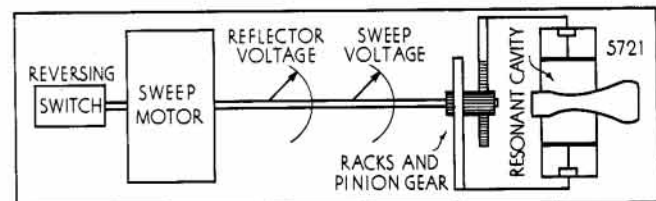

Figure 1. Operating diagram of 670HM Swept Frequency Oscillator.
The principle operating features of the -hp- 670HM (670H with sweep motor attached) are shown in Figure 1. The sweep motor shaft produces three simultaneous results: (1) Through a rack and pinion gear arrangement shorting plungers are moved in and out within the resonant cavity; (2) The reflector voltage is at the same time being tracked so as to insure accurate frequency control; (3) The sweep voltage is tracked so as to be available as an oscilloscope input.